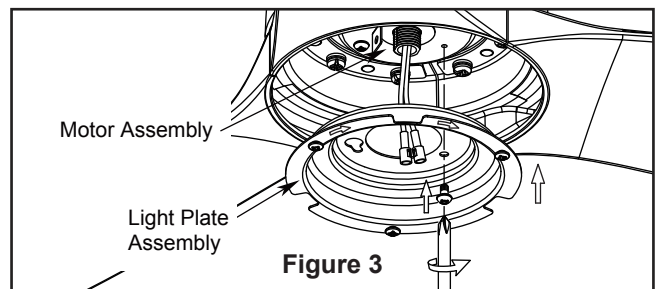

Figure 3
- Assemble the light plate assembly to the support bracket using the two key slots in the light plate assembly. Replace the previously removed screw and securely tighten all three screws. (Figure 3)
3. Remove the battery cover from remote control by screwdriver and retain the screw for later. (Figure 3)